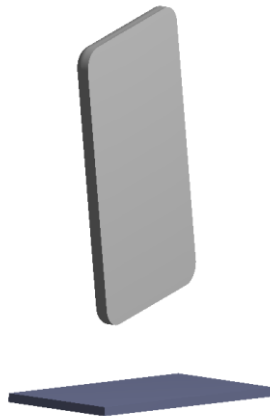

Figure 1. The geometry of cellphone
- Import the geometry (Figure 1).